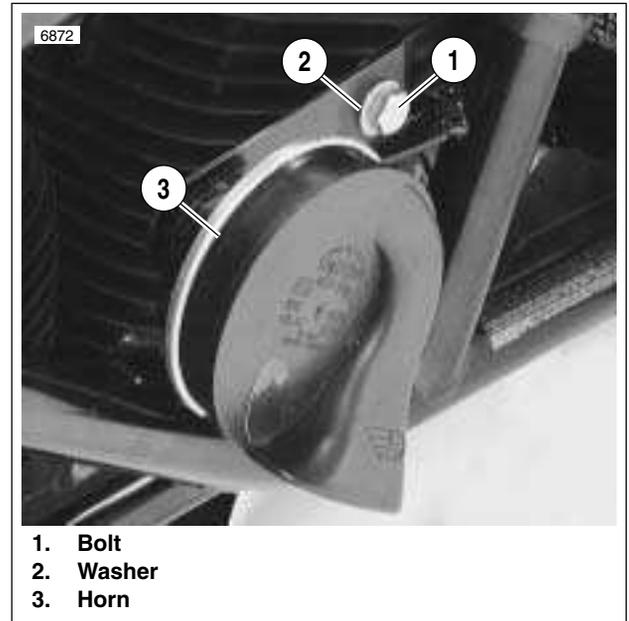

Figure 7-68. Horn Assembly
4. See Figure 7-68. Remove bolt (1) and washer (2).
5. Remove horn (3) from frame.
2. See Figure 7-68. Attach horn (3) to frame using bolt (1) and washer (2).